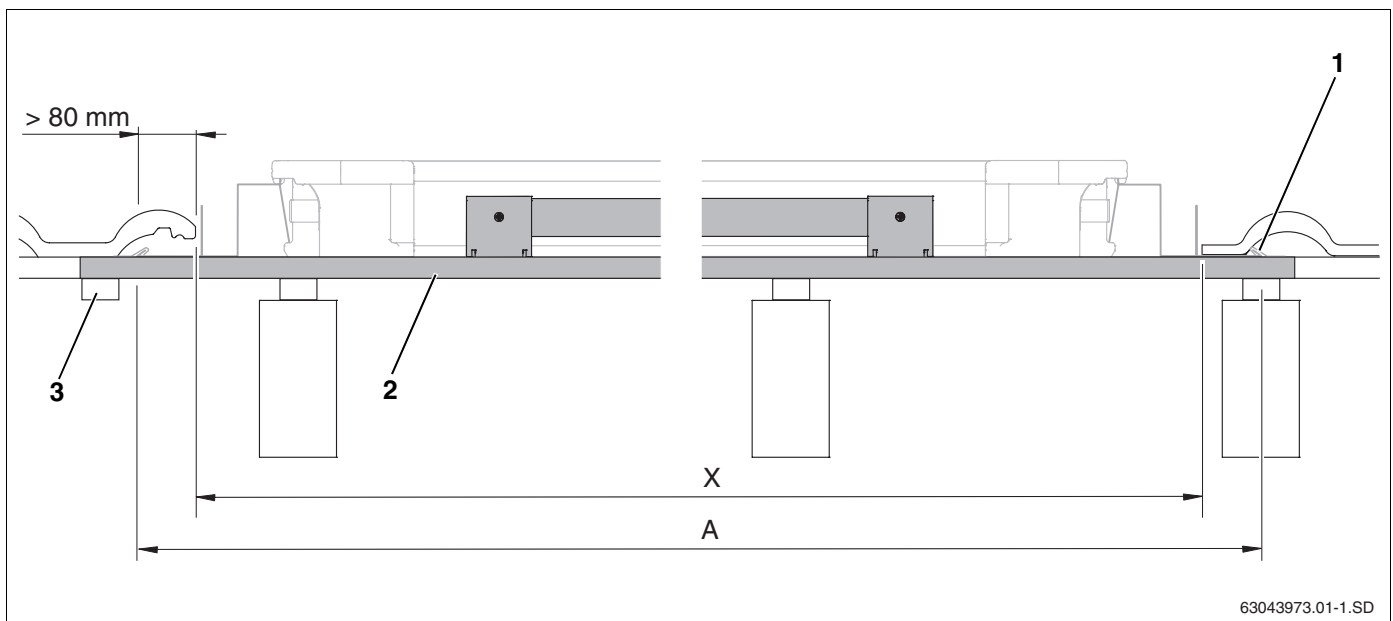
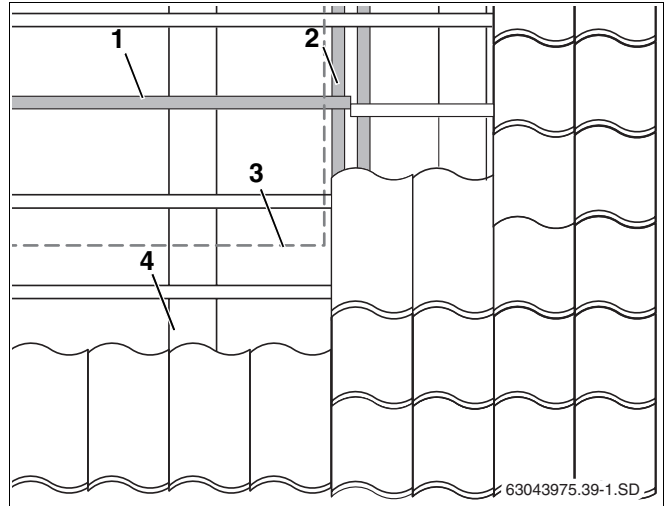

Fig. 9 Length of additional roof battens (here: first lower roof batten with anti-slip protection)
Fig. 13 Moving roof battens around the collector array area
The minimum length of the additional battens (Fig. 9, **Item 2**) is the width of the collector array (Table 5, page 17, dim. A) plus approx. 10 cm for the side clips (Fig. 9, **Item 1**).
- ▶ Fasten batten butt joints to the joist or ensure that they are adequately secure, e.g. by fastening them to the already existing roof battens (Fig. 9, **Item 3** and Fig. 13, **Item 2**).
If an additional roof batten (Fig. 13, **Item 1**) has to be fitted near a pre-existing one, the pre-existing one must be moved near to the collector array (Fig. 13, **Item 3**) and adequately fastened (Fig. 13, **Item 2**).